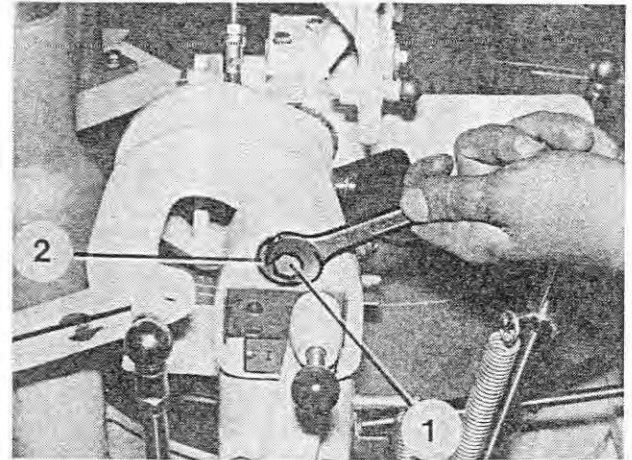

Fig. 147
12. Unscrew the locking screw (Figure 147/1) of the folding head and remove it with the washer (Figure 147/2).